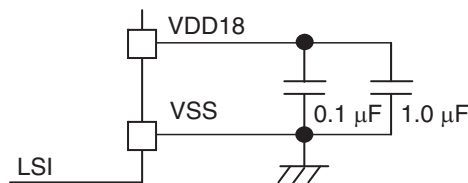

Figure:1.5.1 Capacitor Connection between V_{DD18} and V_{SS} Pins
*3 Connect appropriate capacitor about 0.1 μF + 1.0 μF between V_{DD18} pin and V_{SS} pin, near the microcontroller according to the Figure:1.5.1 shown below for the internal power supply stabilization.